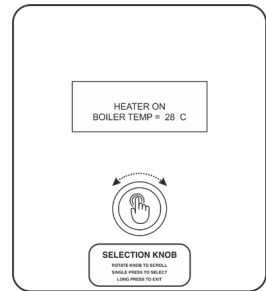

Fig. No. 20.1
- **HEATER ON** (Ref. Fig. No. 20.1)